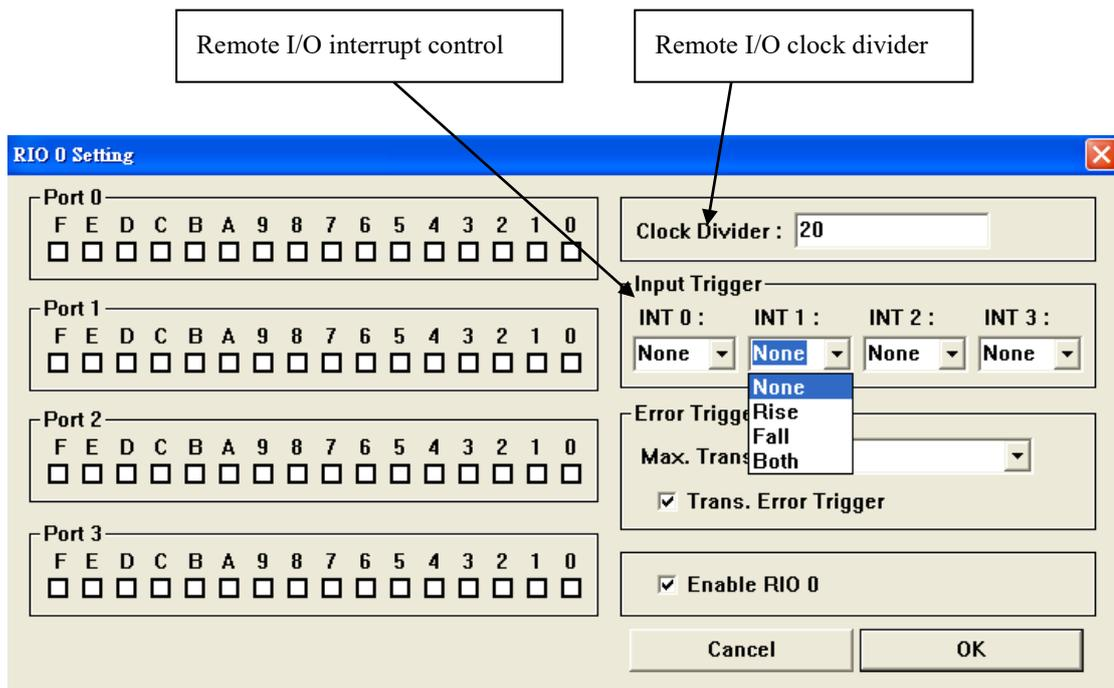

Figure 4-7.2
(2) Set remote I/O clock divider (as shown in Figure 4-7.2)
This is to set the transmission clock of the remote serial I/O module(s). In Figure 4-7.2, RIO 0 Clock Divider is the transmission clock divider of RIO set 0. When Clock Divider is set to N, the transmission clock can be determined by the following equation:
(3) Set remote I/O interrupt control (as shown in Figure 4-7.2)
Each remote serial I/O module has 4 inputs which can be programmed for interrupt. The interrupt trigger mode can be rising edge trigger (Rise), falling edge trigger (Fall), or level change trigger (Both). In Figure 4-7.2, INT 0 ~ INT 3 are the 0th to the 3rd inputs respectively.